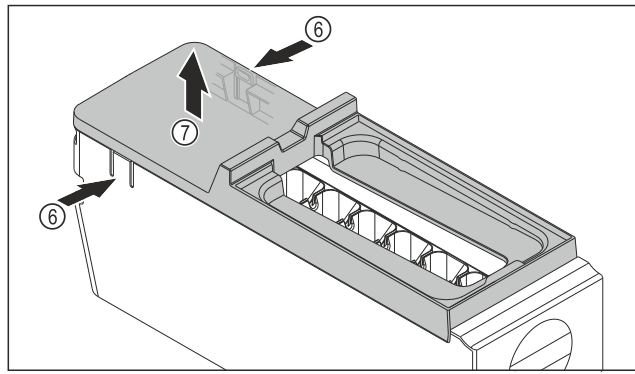

Fig. 112
- ▶ Removing the cover of the EasyTwist-Ice body: With one hand, press the tabs Fig. 112 (6) on both sides of the EasyTwist-Ice body.
- ▶ With the other hand, remove the cover Fig. 112 (7) upward.